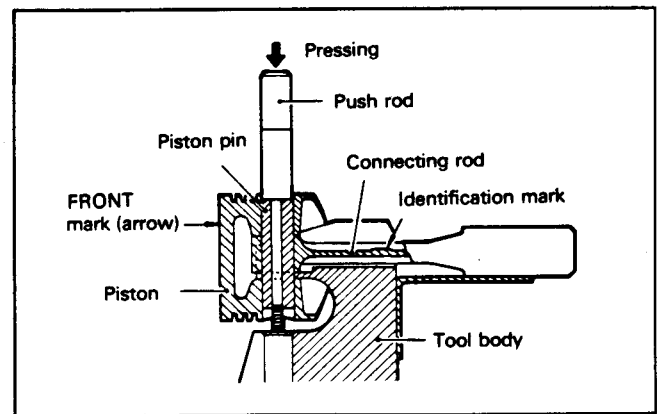

Figure 97
11. To remove the piston from the connecting rod press the piston pin from each piston. Use the piston setting tool (Fig. 97).